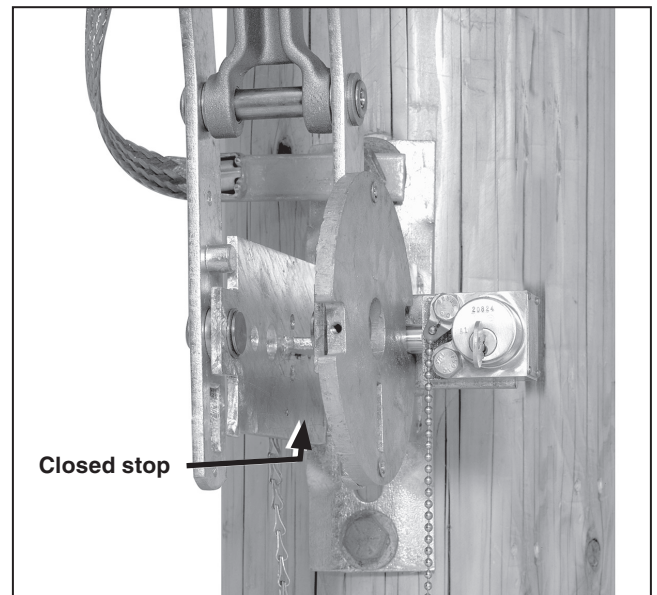

Figure 26. Verifying the toggle mechanism lies against the closed stop.
- (b) Each switch-pole toggle mechanism should lie against its closed stop. See Figure 26.